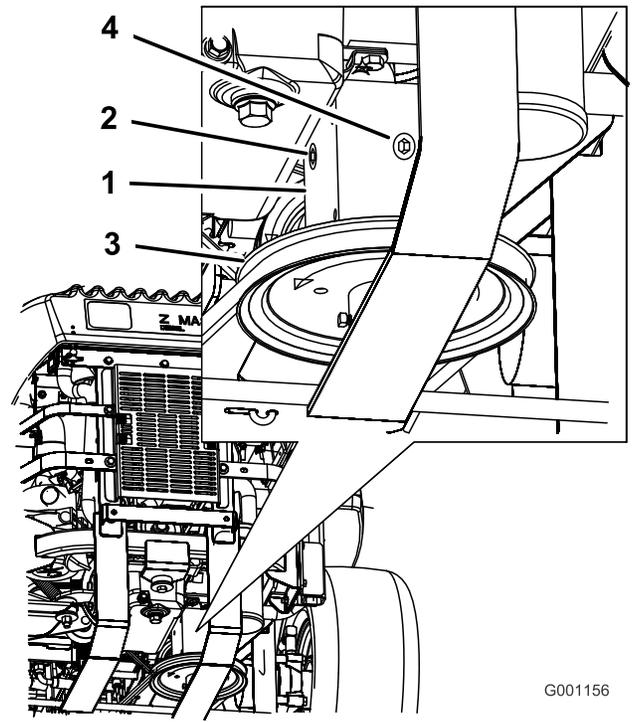

Figure 76
3. Remove the side or rear plug on the gearbox (Figure 76).